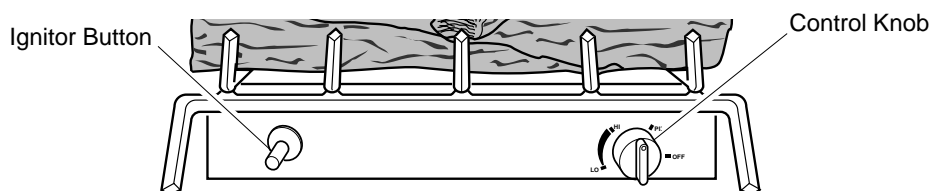

Figure 19 - Control Knob and Ignitor Button Location
4. Wait five (5) minutes to clear out any gas. Then smell for gas, including near the floor. If you smell gas, **STOP!** Follow "B" in the safety information in column 1. If you don't smell gas, go to the next step.
5. Slightly depress and turn control knob counterclockwise  to the **PILOT** position. Keep control knob pressed in for five (5) seconds (see Figure 19).